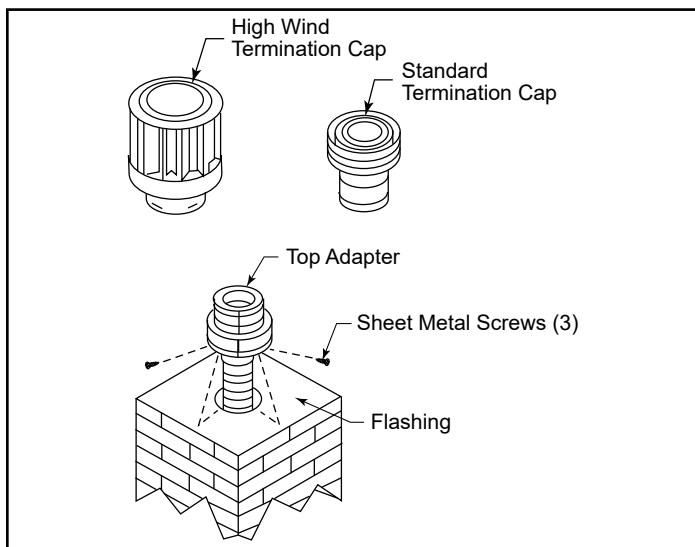

Figure 3.50
7. Secure the cap adapter to the flashing. Use three (3) sheet metal screws through the side of the adapter into the flange on the flashing as shown in Figure 3.50. Twist-lock the termination cap (980,991, 930) on to the cap adapter.